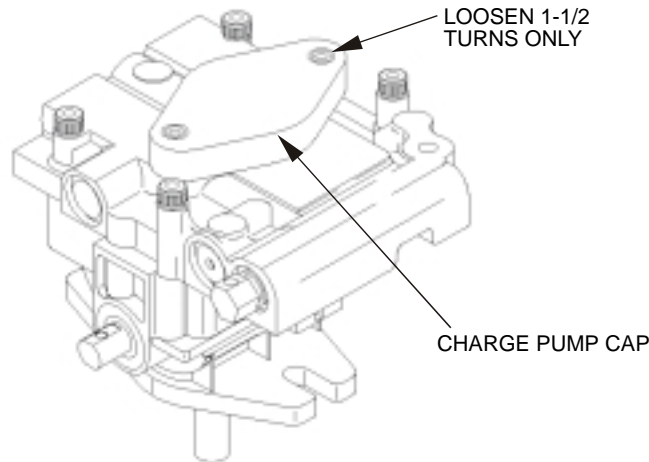

FIG. 6
- g) If either drive wheel does not rotate, one or both of the charge pumps (located on the top of the main pump as shown in Figure 6) may have lost their "prime". Refer to Section 5.1.10.
The critical area for purging air from the hydraulic system is between the oil reservoir and each charge pump located on the top of each variable displacement pump. (See Figure 6). Air in other parts of the hydraulic system will be purged through normal operation once the charge pump is "primed".
- e) To "prime" charge pump, loosen two hex socket head capscrews (shown in Figure 6) **1-1/2 turns only. Make sure engine is not running.** Lift the charge pump housing upward and wait for a steady flow of oil to flow out from under the housing. Retighten the capscrews. Do this for both pumps.